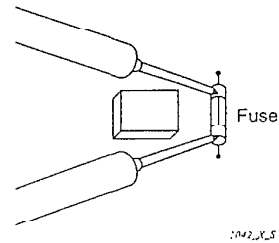

Fig. 19
⑥ Continuity of fuse on P.C.B. Ass'y
- Check for continuity using a multimeter as shown in Fig. 19.